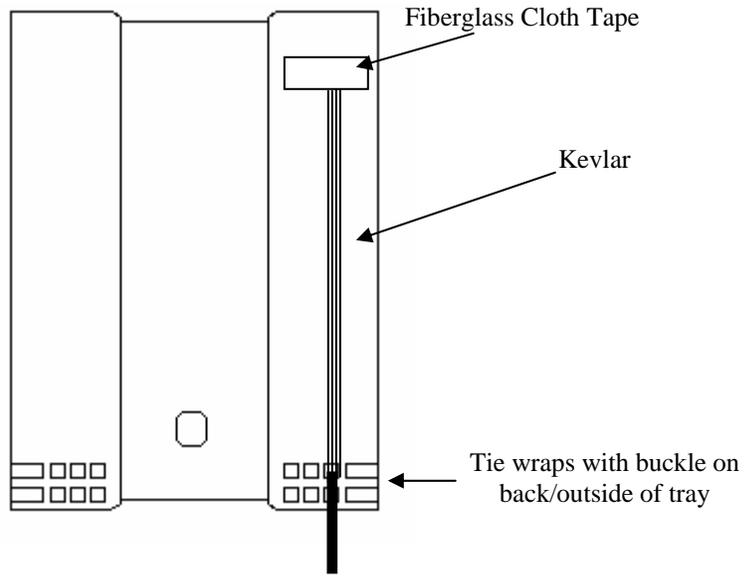

Figure 9 - Taping Down Kevlar
Step 9 - Tape down the Kevlar to the back/outside of the splice tray with fiberglass cloth tape (See Figure 9 below).